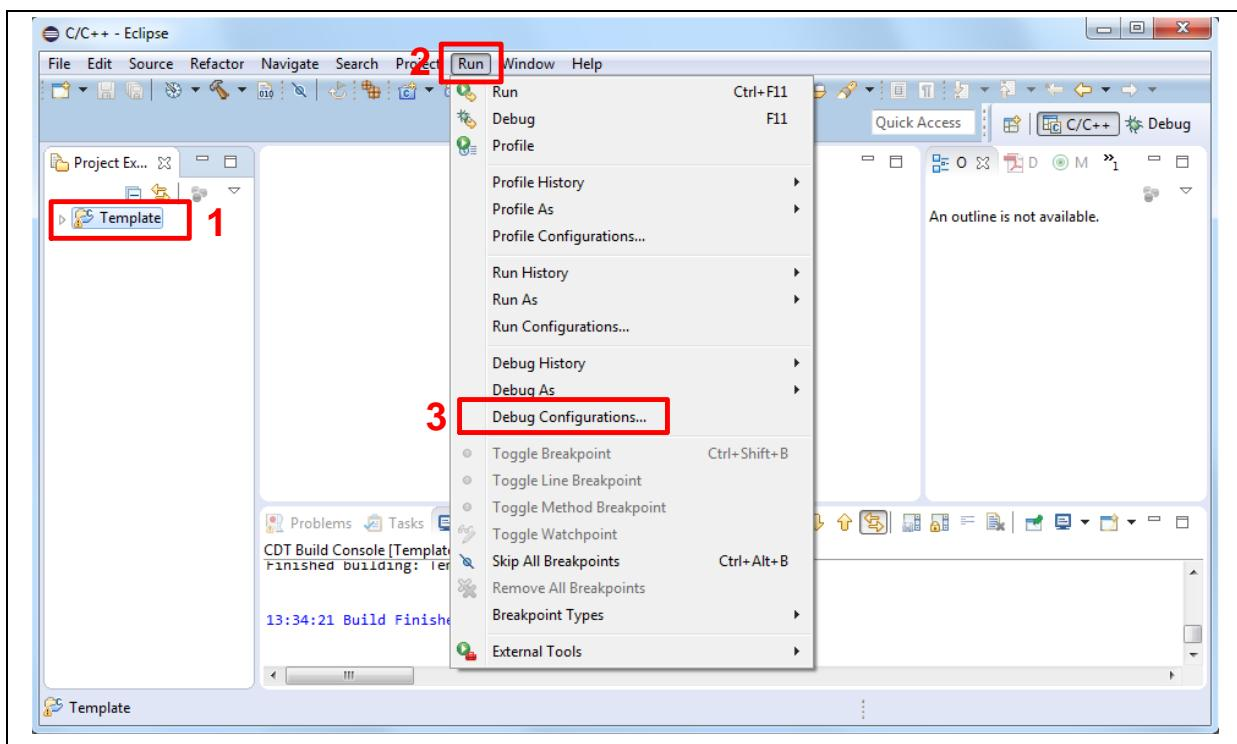
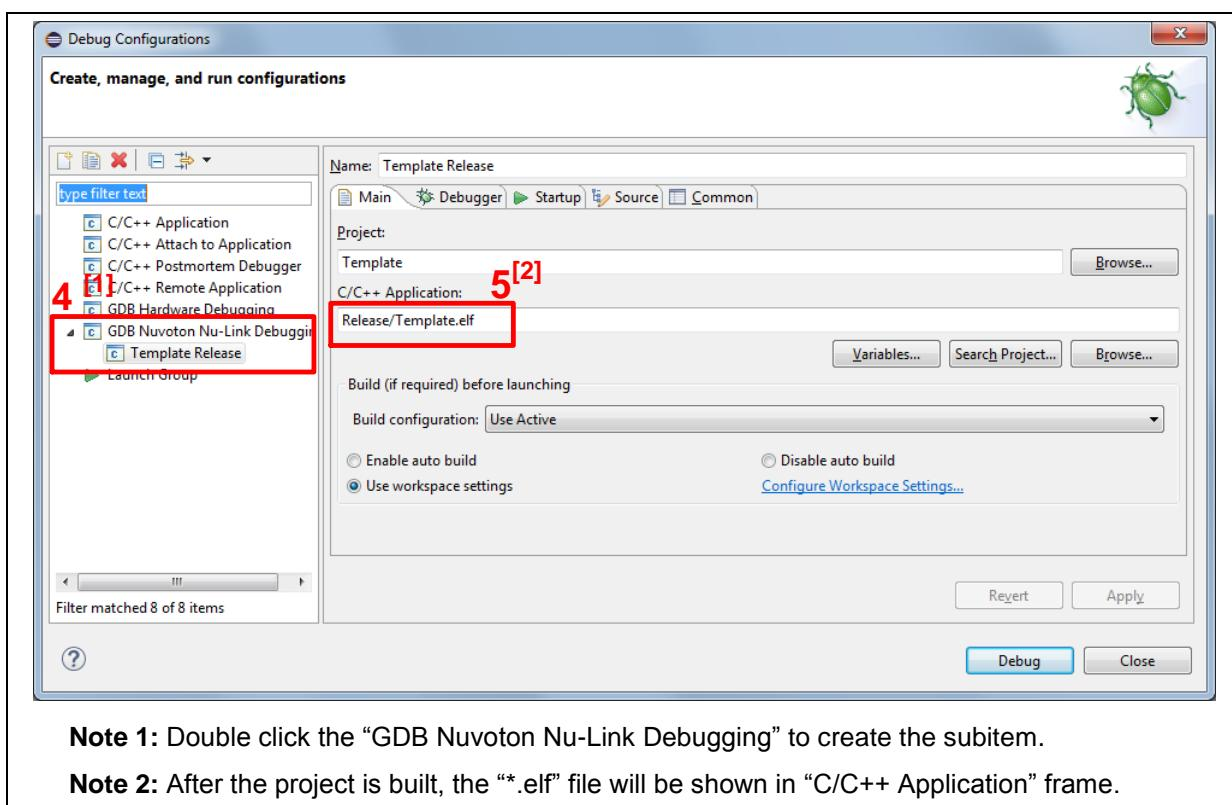
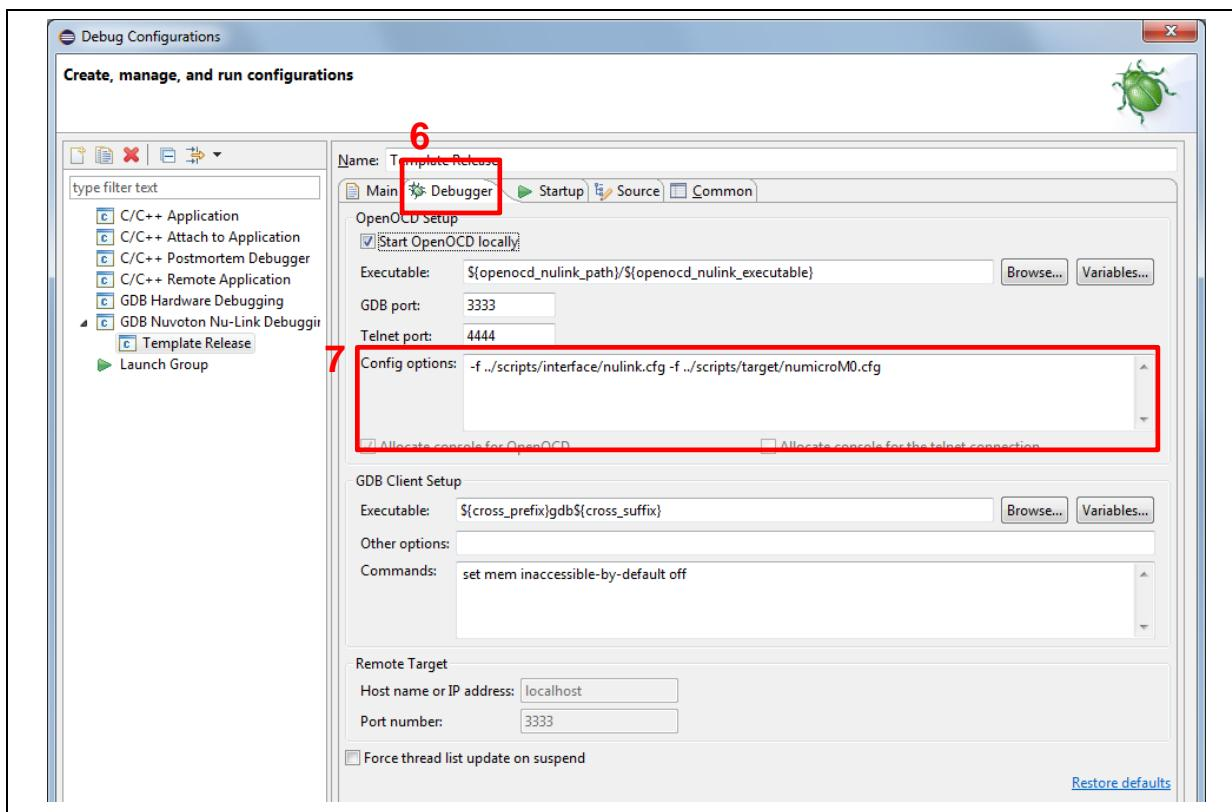
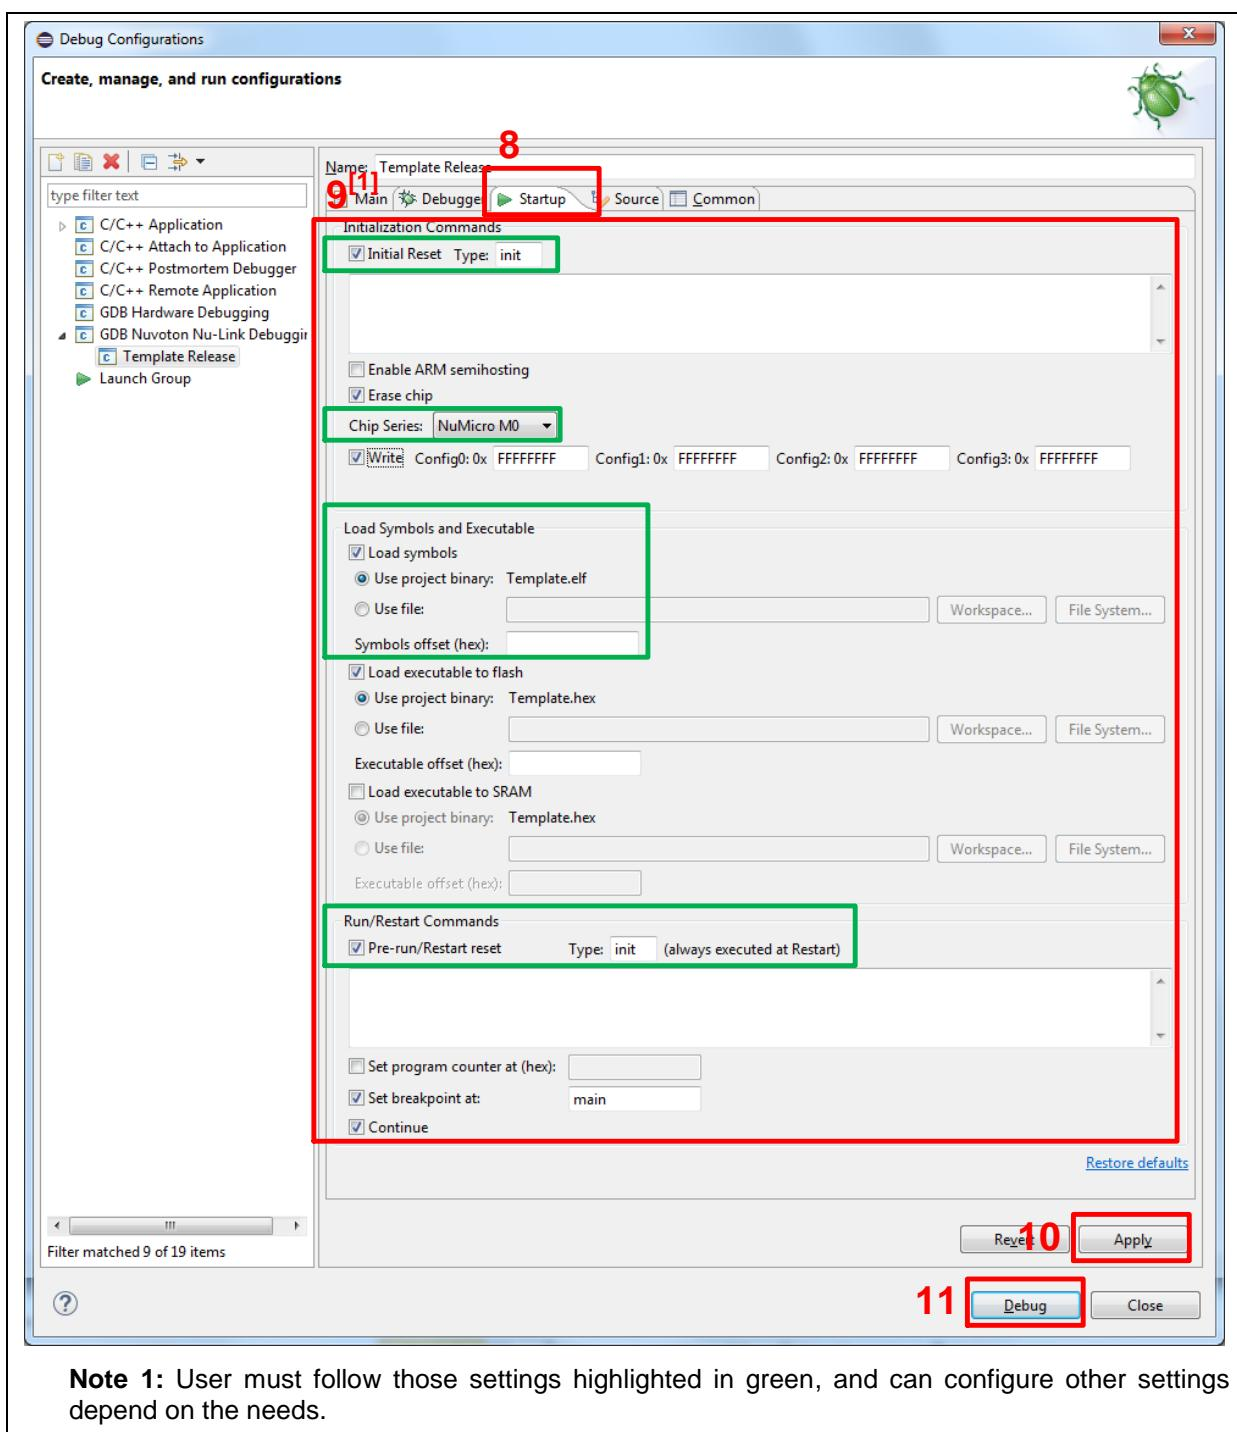

Figure 3-32 Open Debug Configuration
Figure 3-33 Main Tab Configuration
Figure 3-34 Debugger Tab Configuration
Figure 3-35 Startup Tab Configuration
5. After the project is built, click the "Template" project and set the "Debug Configuration" as shown in Figure 3-32. Follow the settings presented in Figure 3-33, Figure 3-34 and Figure 3-35 to enter debug mode.